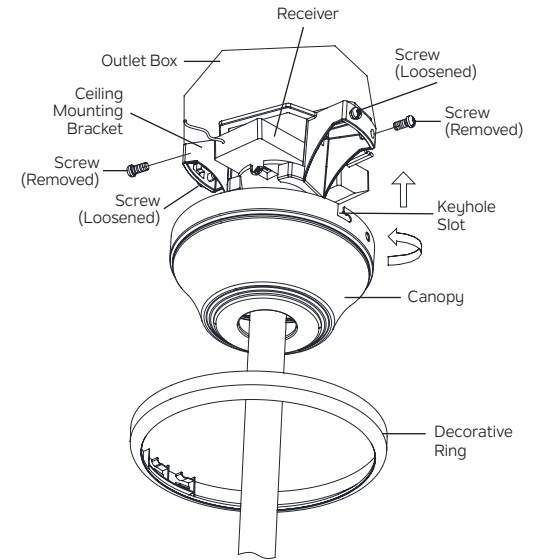

Fig. 15
**Step 2.** At the top of the ceiling mounting bracket, there are 4 preinstalled screws (2 on each side). On each side of the ceiling mounting bracket, loosen the first (left) screw just enough so that the screw will be able to lock into a “keyhole” slot in the canopy. Remove the second (right) screw. **(Fig. 15)**
**Step 4.** Reinstall the 2 screws that were removed into the aligned holes in the canopy and the ceiling mounting bracket. Tighten all 4 screws to secure. **(Fig. 15)**